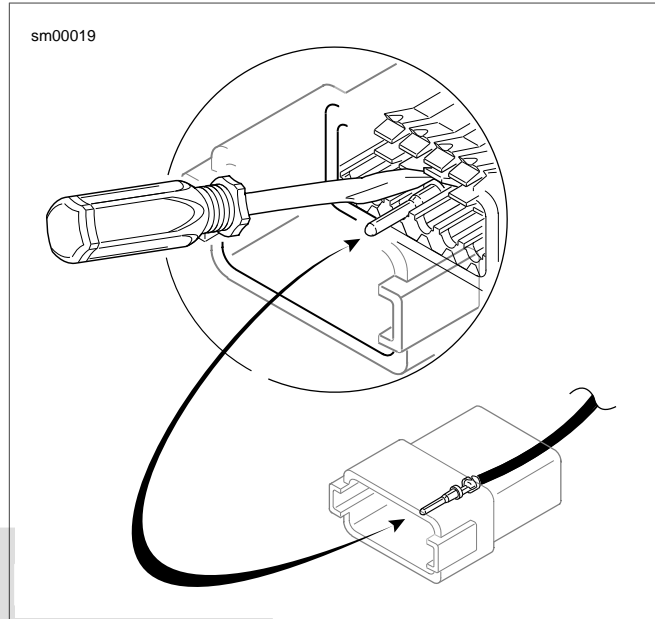

Figure A-16. Deutsch Connector: Depress Terminal Latch and Back Out Pin
- See Figure A-16. Use a pick or small screwdriver to depress terminal latches inside socket housing and back out sockets through holes in rear wire seal.